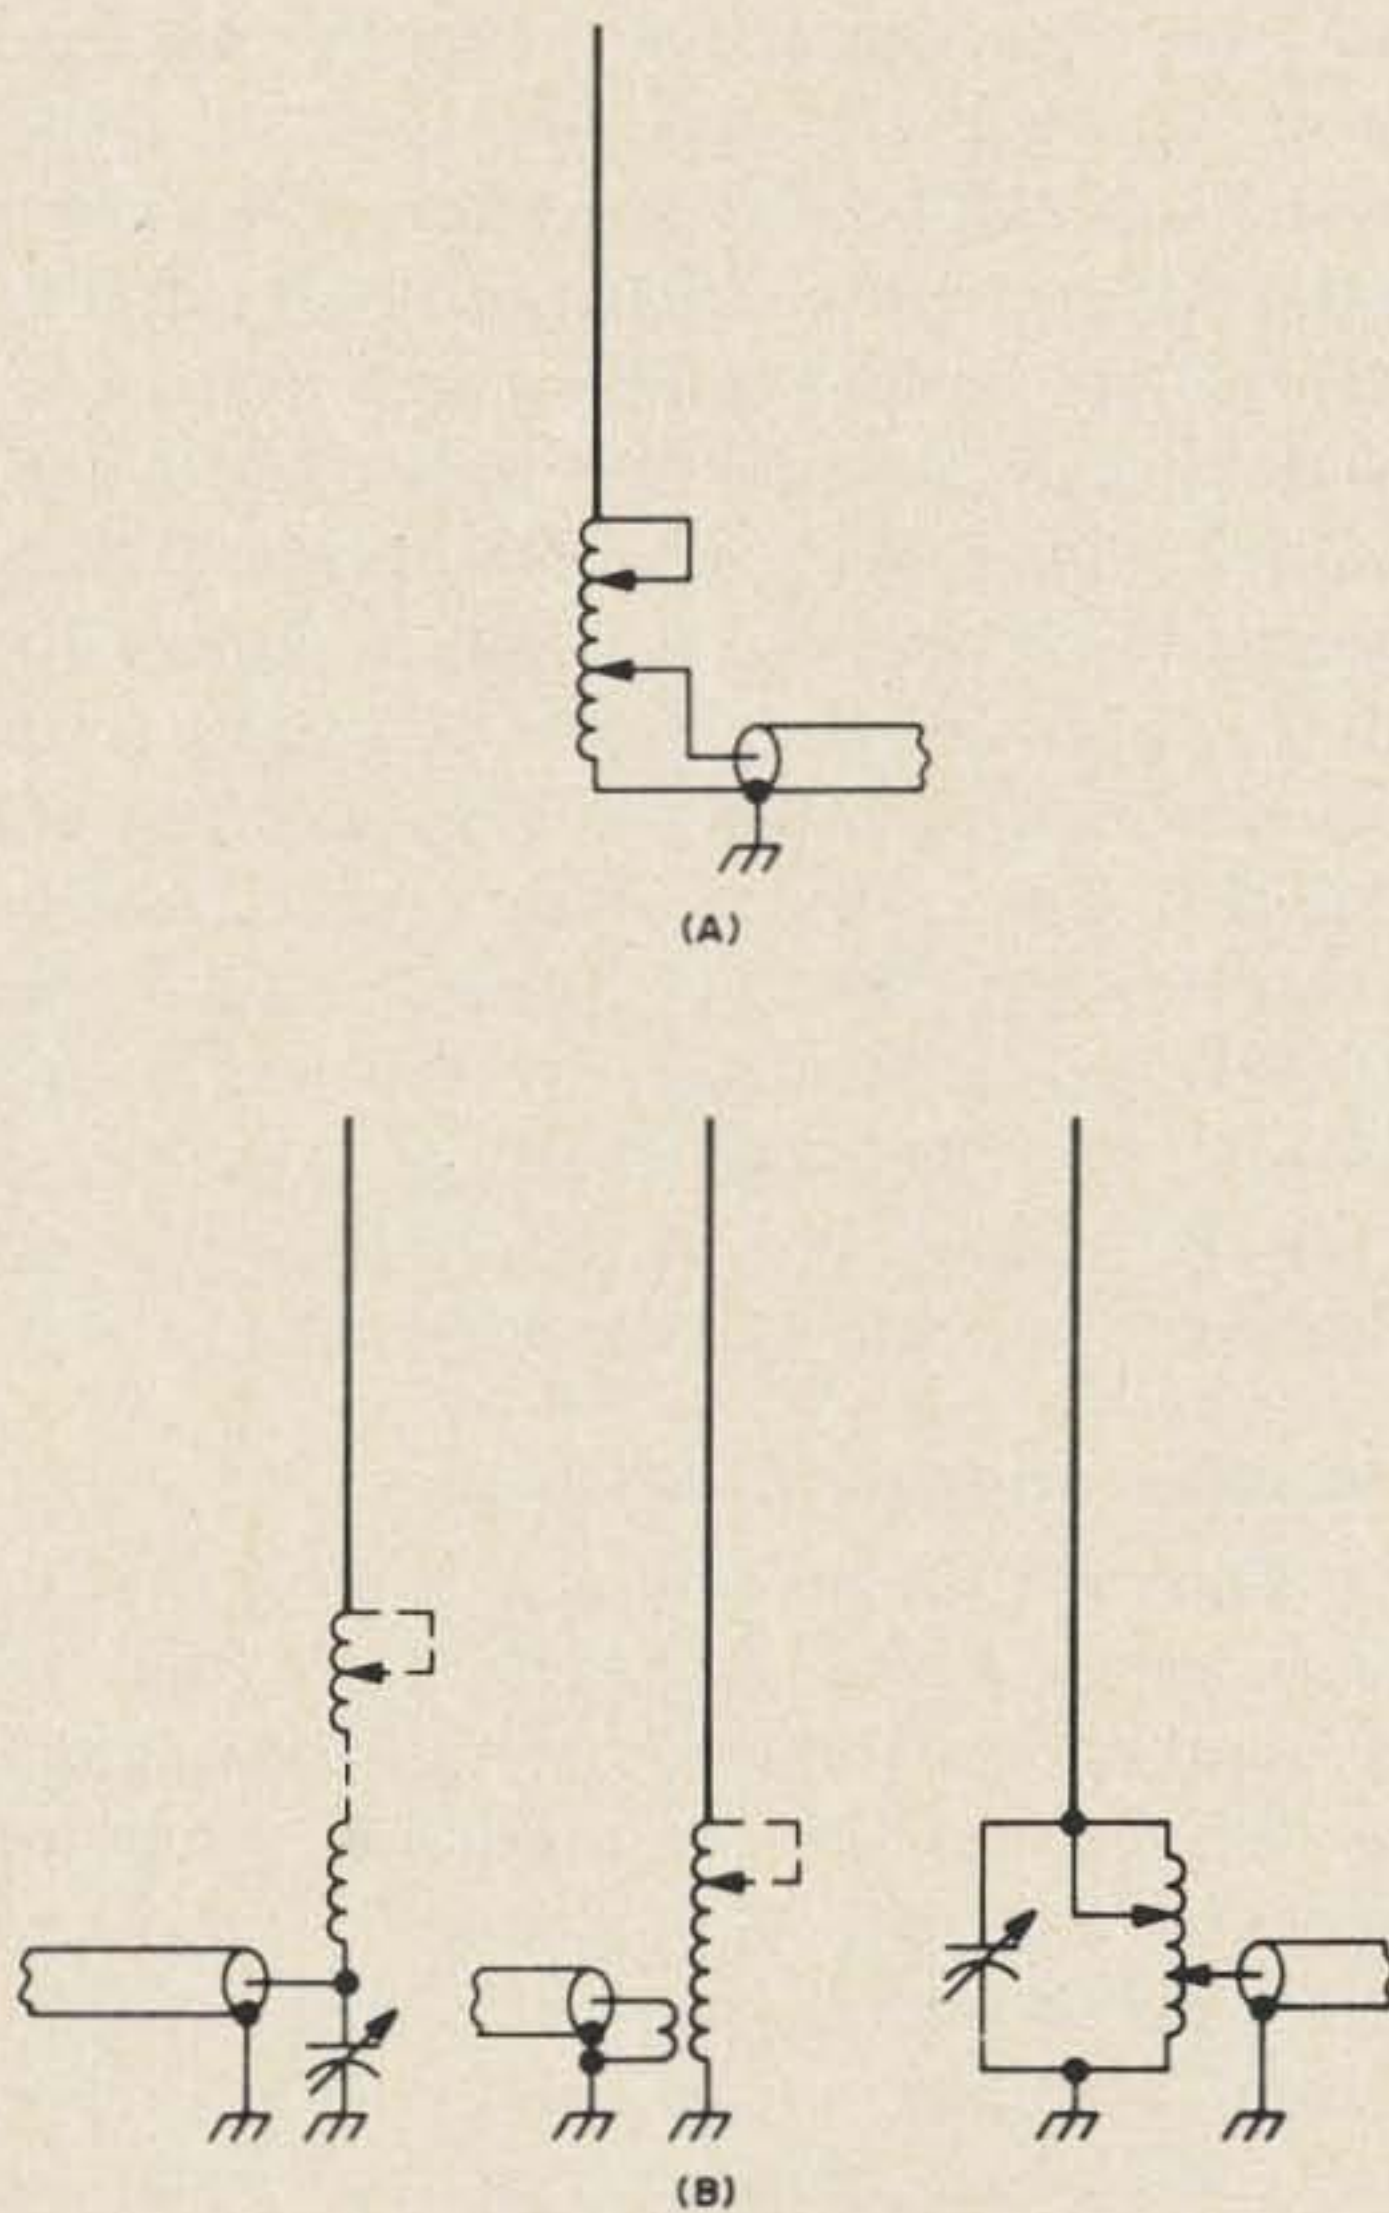

Fig. 1. The basic antenna loading scheme (A) and three networks which were considered in order to provide simplified single-band tuning (B).
The original suction-cup antenna consisted of a surplus folding whip antenna about 10 ft long with a loading coil at its base. It was intended for quick setup, particularly on an automobile, whenever a multiband antenna was desired for temporary operation. Apparently, the idea was appealing to many amateurs who wanted some portable operating capability while on vacation or some other trip but didn't want to install a regular mobile antenna installation. The whip and coil were wired together as shown in Fig. 1 (A).
There are several ways by which the coil taps shown in Fig. 1 (A) can be replaced for single band operation by a continuous tuning scheme. Some of these possibilities are illustrated in Fig. 1 (B). The simplest scheme is probably that there a variable capacitor is placed from the coax center conductor to ground and an extra inductor added to the basic whip loading coil. The extra inductor and the capacitor form an "L" network which can be tuned as desired to match the loaded whip. Although the scheme is generally simple for new construction, since only one inductor need be used which combines the loading and "L" network inductances, it does have a disadvantage in that the variable capacitor has to be fairly large. In fact, several thousand mmf may be required on 80 meters for a 10 ft whip. Fixed capacitors can, of course, be paralleled with a wide range variable capacitor. Another possible scheme is to leave the coil taps as in Fig. 1 (A) but use a 100–200 mmf variable capacitor across the entire coil. Such a scheme will eliminate the need to change the upper coil tap for operation over most of one band but the capacitor is subject to a fairly high voltage gradient and has to be a wide-spaced type for any appreciable transmitter power. The best compromise scheme seems to be that shown in the middle of Fig. 1 (B). Link coupling is used to couple to the loading coil in order to eliminate the transmission line coil tap. The series capacitor modifies the effective coil reactance so that adjustment of the one coil tap left is only needed for bandswitching. A capacitor of 250–325 mmf and medium spacing is sufficient for medium power transmitters.